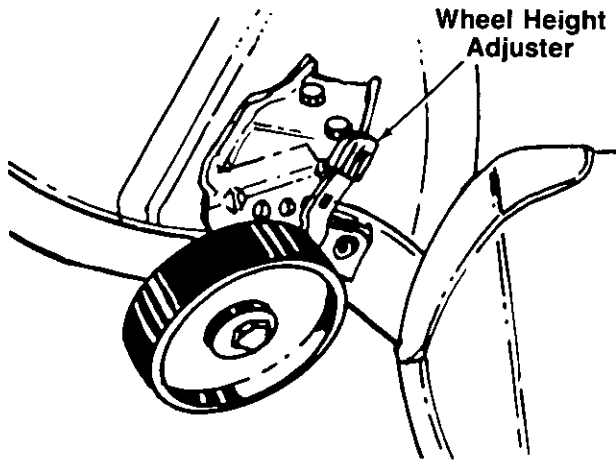

FIGURE 18.—Model 13607 Only
**Model 13607:** Move the wheel height adjuster lever towards the wheel and set it in the desired height. See figure 18.